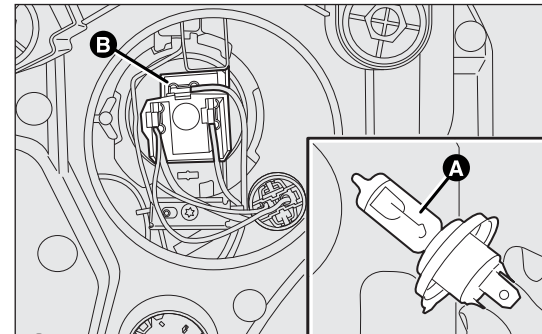

fig. 168
- disconnect the central electric connector B-fig. 168 and release the bulb holder catch;